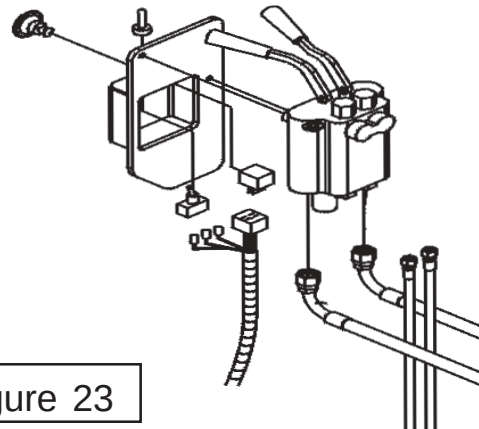

Figure 23
3. The control handle will connect direct to the valve on ROPS Tractor (See Figure 23), the electric reversing switch and components also connect to the valve mount bracket as shown (See Figure 23).
5. Install Electrical Switches. The electric neutral safety switch and the head reversing switch both mount into the valve mounting bracket (See Figure 23, and Electrical section in this assembly manual)., Make certain that the battery cables are disconnected before connecting any electrical connections, this is to prevent the shorting of any components. Check the tractors manufactures service /repair manual for any restrictions or special instructions about connecting electric components to the tractor.